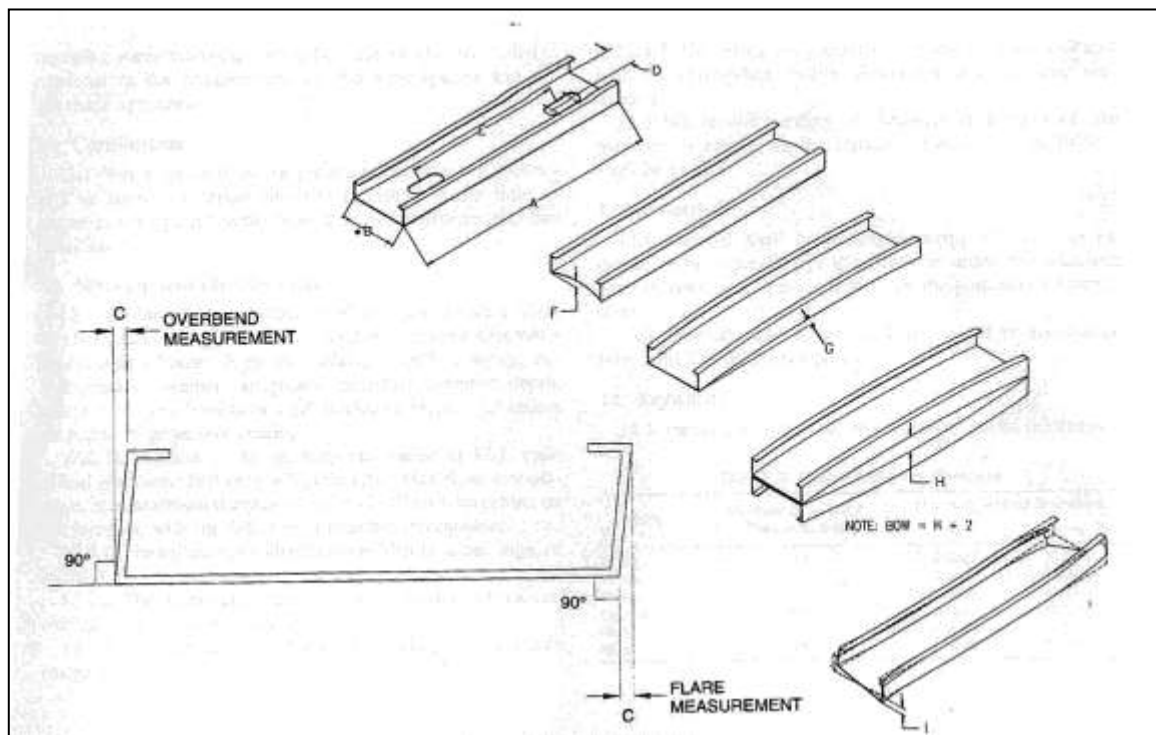

Fig. 2 Manufacturing Tolerances
Stud & track profiles shall be manufactured from pre-galvanized high tensile steel conforming to IS 277:1992, ASTM A 653/A 653M-2013 Grade 350 having Yield stress of min. 350 MPa & Tensile stress of min. 380 MPa and coating of min. Z 275 or equivalent as per the Performance requirement, Dimensions and Permissible tolerances shall to ASTM C:955-07. See Fig 2 and table 3
- iii. Members shall be manufactured within the tolerance limits as shown in Fig.2 and Table 1 below